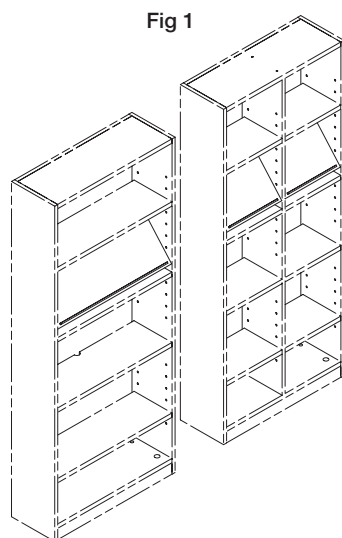

Fig 1
1.1. Using the existing adjustable shelf drilling of the cabinet, determine the preferred location of the periodical shelf. (Fig. 1)